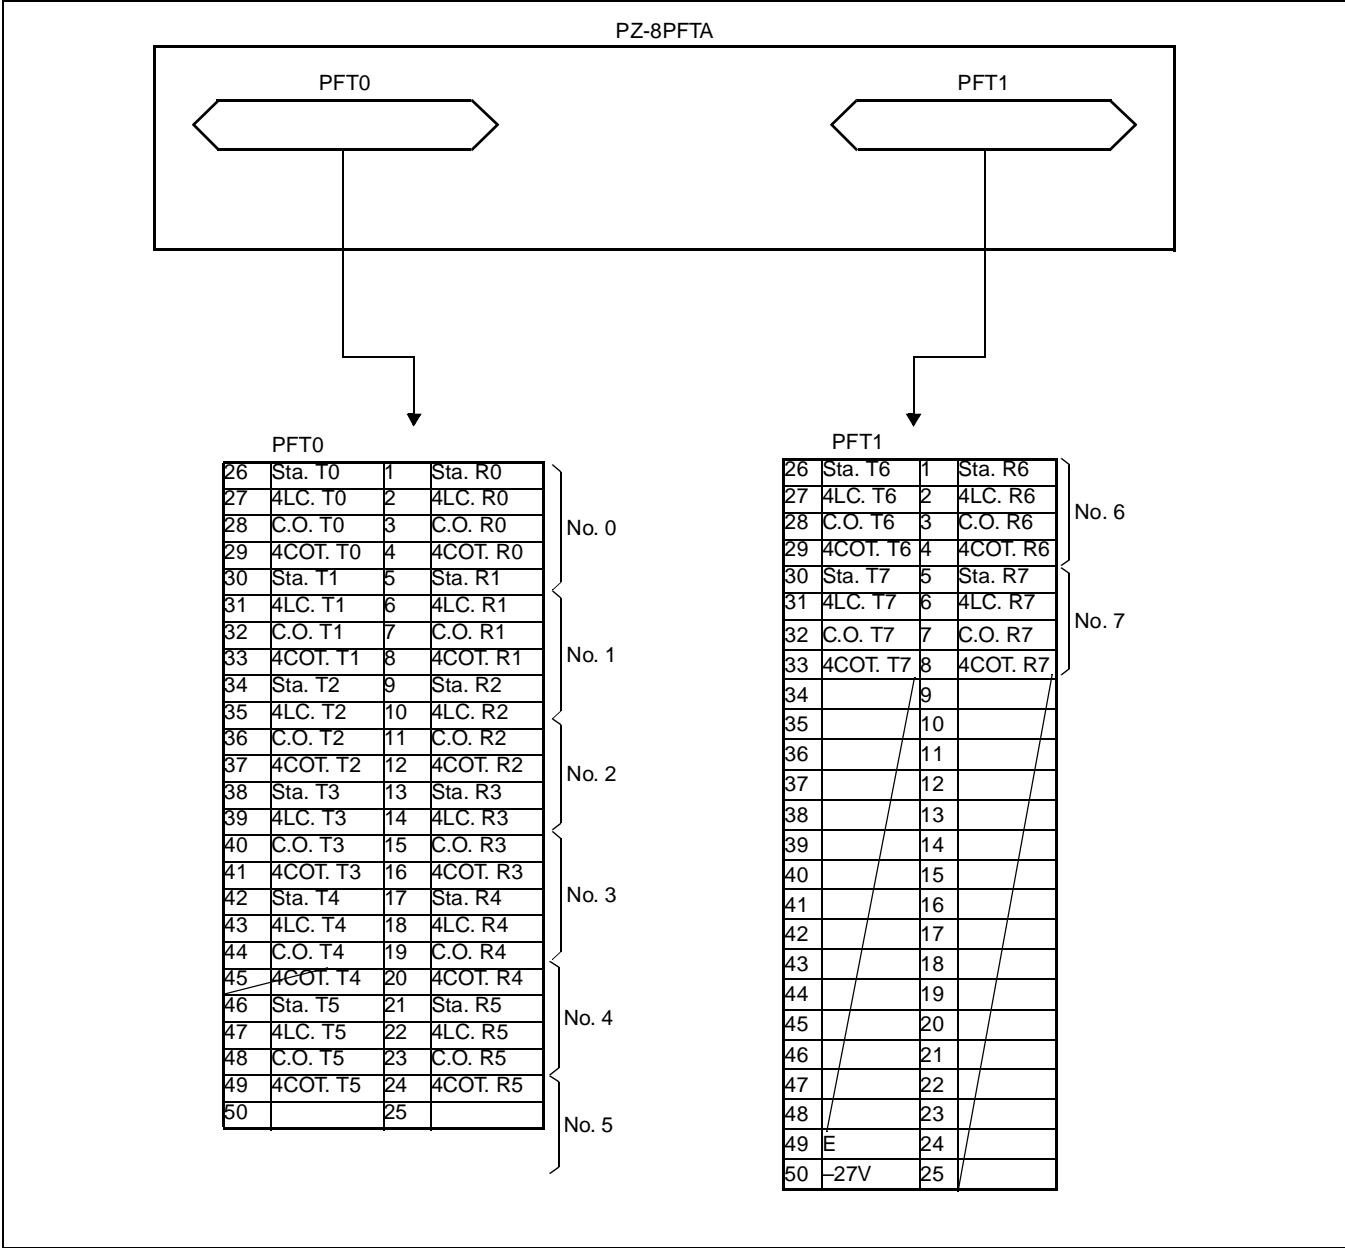

Figure 007-44 PFT Connector Pin Assignment
STEP 3: Connect the 25-pair cables on the MDF referring Figure 007-44 and Figure 007-45.
- Figure 007-44 shows the PFT connector pin assignment for each PFT circuit number (No. 0 -No. 7).